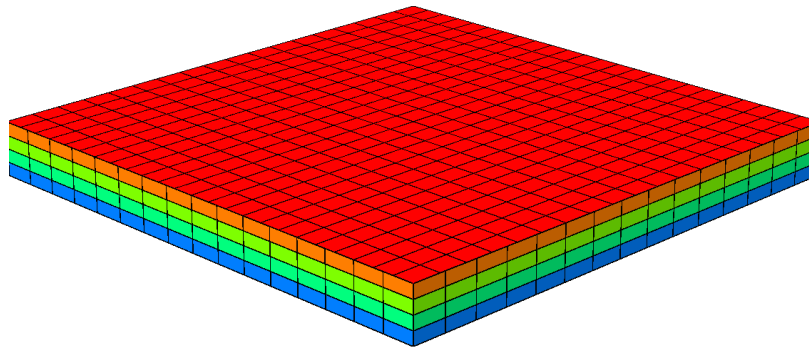

Figure 14: The panelled hull of the vessel.
- ☞ The produced mesh should resemble the one found in Figure 14.